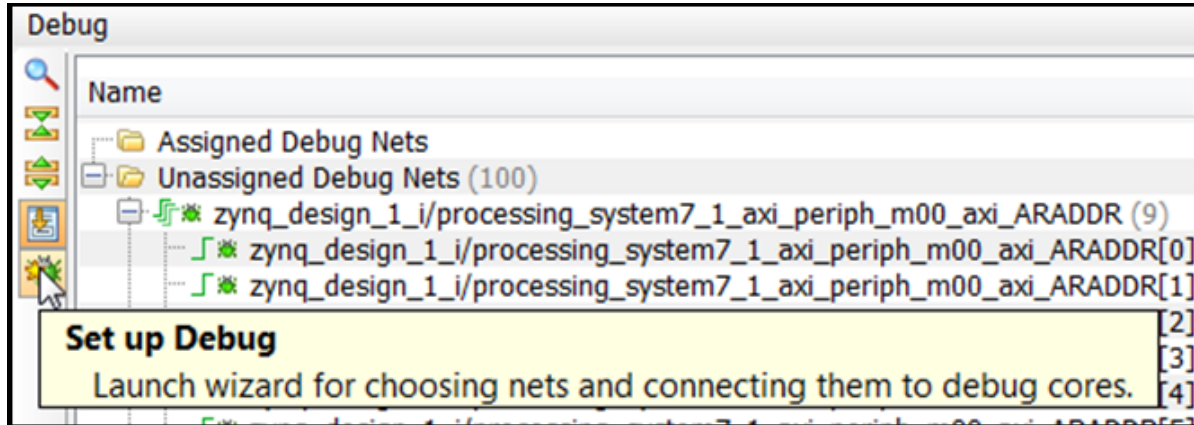

Figure 31: Set up Debug Option
1. On the left-hand toolbar of the Debug window, click the **Set up Debug** wizard button (Figure 31).